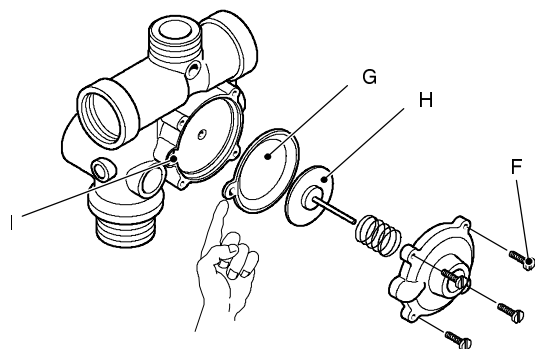

fig. 61
- 3 Unscrew the four screws *F*, open the hydraulic operator and remove the membrane *G* (fig. 61).
Assembling the part, ensure to place the concave side of the membrane towards the actuator plate *H* and the reference hole indicated in the seat *I* (fig. 61).